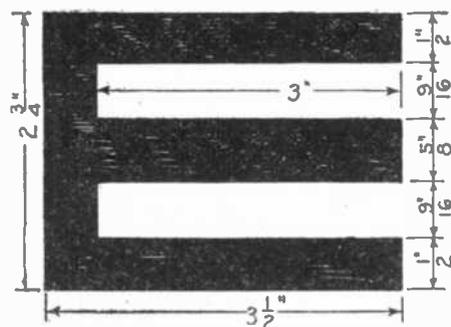

FIG. 1-A
is wound around the pipe as shown in Fig. 1. When sufficient wire has been wound on the pipe, the free end of the wire (D) is passed through the loop (B) after which the wire (W) is pulled, drawing the loop (B) tightly under the turns around the pipe.
Fig. 1 shows the lamp in sectional elevation, the base is of wood and about 5/8" thick. To prevent the wood surface being scorched, and to obtain better insulation for